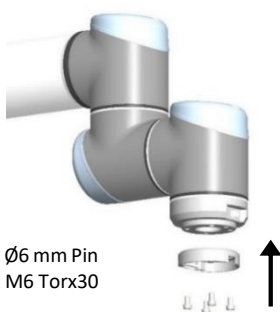

Figure 1.1
- Screw it onto the robot using the four Torx T30 bolts, Torque = 6Nm (See Figure 1.1 below)